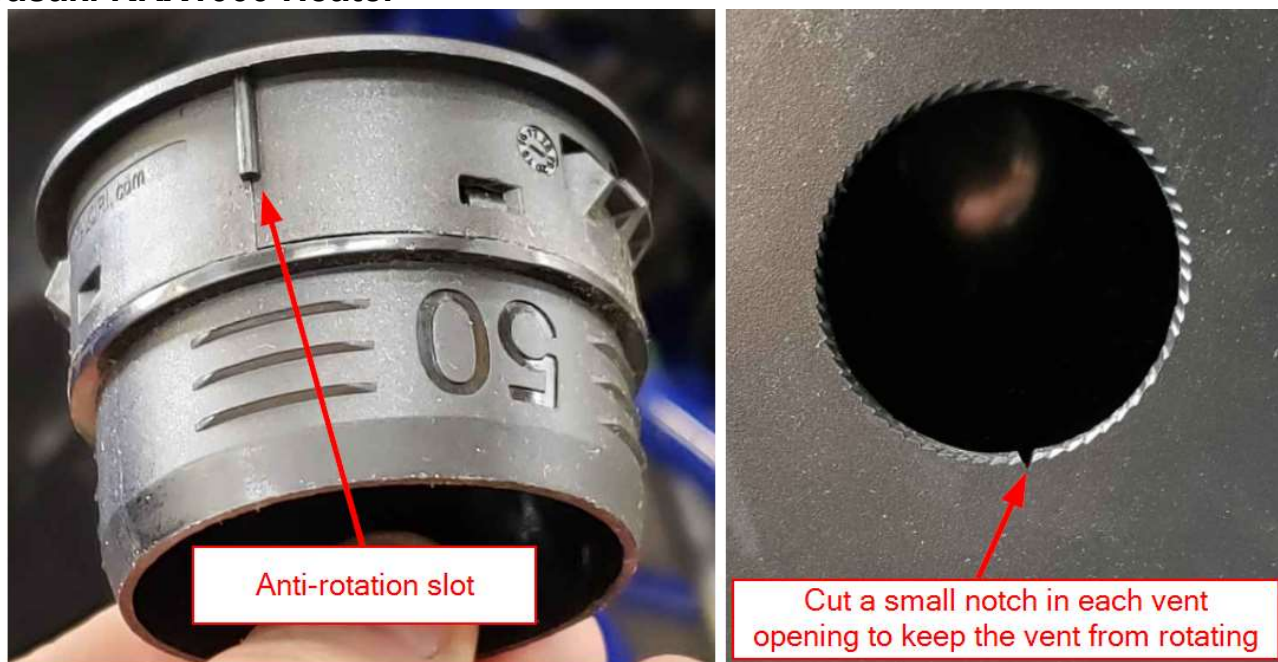

Figure 5
- c. For each Vent hole cut, make a small notch as shown in Figure 5, this will accept the anti-rotation notch on the vents.